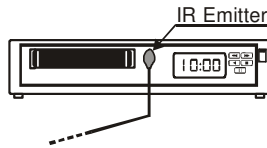

Figure 6: Connecting the IR Emitter
2. Connect the IR OUT 3.5mm mini jack to the tested machine² via the IR emitter cable (see Figure 6).